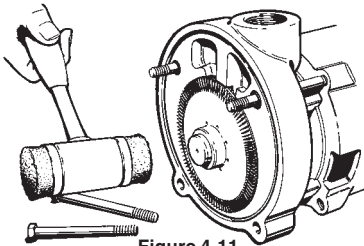

Figure 4-11
4. Remove the impeller(#11), refer to Figure 4-11. This is easily done by setting the motor on end. The impeller is a slip fit and under normal conditions, can be removed by hand or by gently tapping on the end of the shaft with a mallet. Striking the shaft too hard could damage the seat, rotating element, or the motor. After removing the impeller, the impeller key (#23) needs to be removed from the shaft keyway.